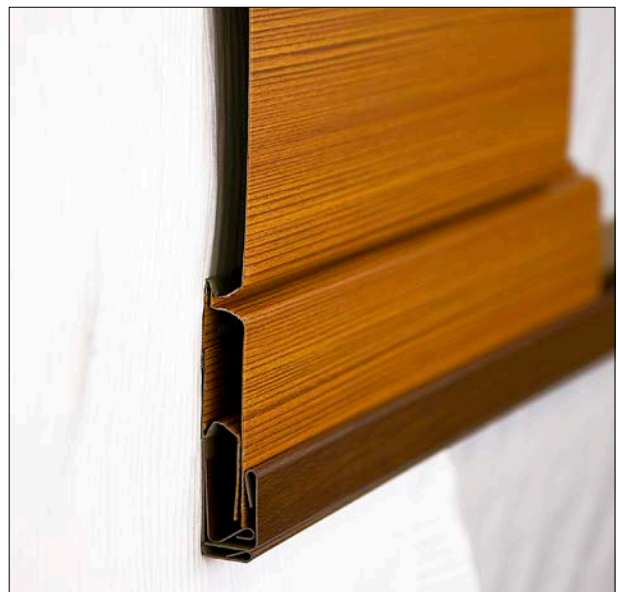

Fig.33
Step 8: Ensure the trim is seated and flush with panel (Fig.33).